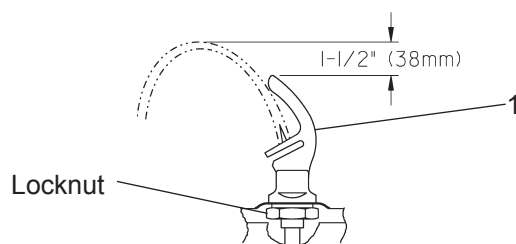
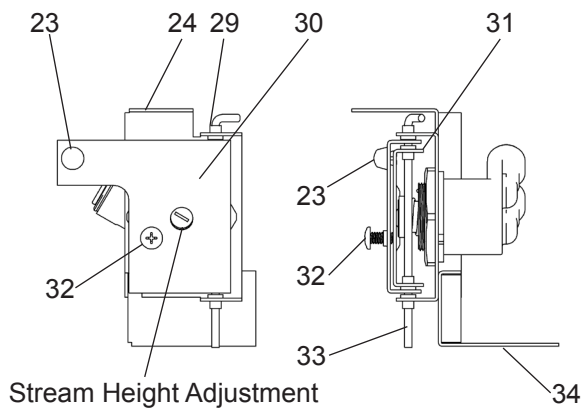
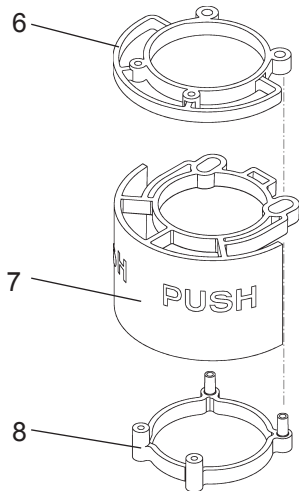

Figure 6 - Bubbler Detail
Figure 7
Figure 8 - Push Bar Mechanism
14. **Check** stream height from bubbler. Stream height is factory set at 35-40 PSI. If supply pressure varies greatly from this, remove items 6, 7, and 8 (push arm and the bottom and the top actuator plates – Figure 8) by removing the screws holding assembly together and adjust the screw on the regulator (Item 19 – Figs. 7 & 9). Clockwise adjustment will raise stream height and counterclockwise movement will lower stream height. For best adjustment, stream height should be approximately 1-1/2" (38mm) above the bubbler guard. (See Figure 6).
When installing replacement bubbler and pedestal (Fig 6), tighten locknut only to hold parts snug in position. **Do Not** overtighten.